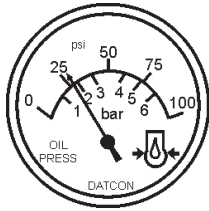

Figure 51. Oil Pressure Gauge
12. The engine oil pressure gauge (Figure 51) will indicate the oil pressure (kg/ cm²) of the engine. Under normal operating conditions the oil pressure is approximately